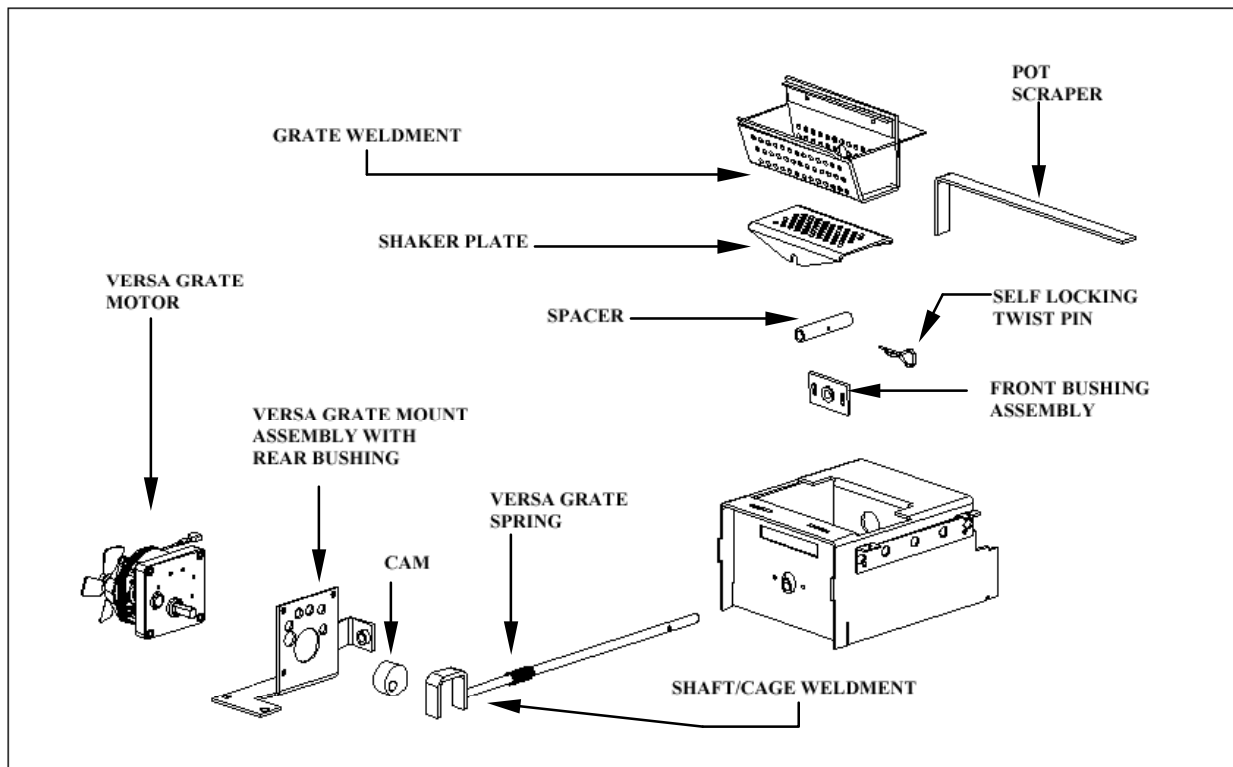

Figure 5
All models are equipped with the Versa Grate System (see Figure 5 below). The benefit of this feature is that the stove can operate for longer periods of time, with most fuels, without the grate requiring cleaning. If the flame becomes dark orange, is accompanied by black smoke or burns with a lazy motion - it's time to clean the grate.
The Versa Grate System – First, let's become familiar with the burn system in a St. Croix Pellet stove. The system in the York Insert is a little different than in the Freestanding models (See Fig 5 below). There is a 2-piece burnpot. The top Part is called the **"Grate Weldment"**. This sits on top of the **"Shaker Plate"**. This in turn sits on top of the **"Shaft/Cage Weldment"** and is held in place with the **"Spacer"** & **"Self Locking Twist pin"**. The Shaft/Cage weldment is moved towards the front of the stove and then towards the back of the stove by the **"Cam"** that is connected to the **"Versa Grate Motor"**. This motion is constant while the stove is in operation. The only parts that may need to be removed for cleaning purposes during the Daily or Periodic Maintenance are the **"Grate weldment"** and the **"Shaker Plate"**. The holes in the burnpot will get plugged with use and should be checked regularly.
1. Check Grate Weldment and Shaker Plate (See figure 5) to determine if holes are plugged. Clean as needed. With proper precautions the grate may be partially cleaned while the stove is hot. Follow these steps:
- d. Use the “scraper” provided to move the burning pellets to one side of the grate, leaving the ash in the bottom of the grate. (See Fig 5 & 6)
3. Clean holes in the Grate Weldment and Shaker Plate at least weekly. Remove the burn grate and use a small metal object to clean out plugged holes (*See figure 5*).